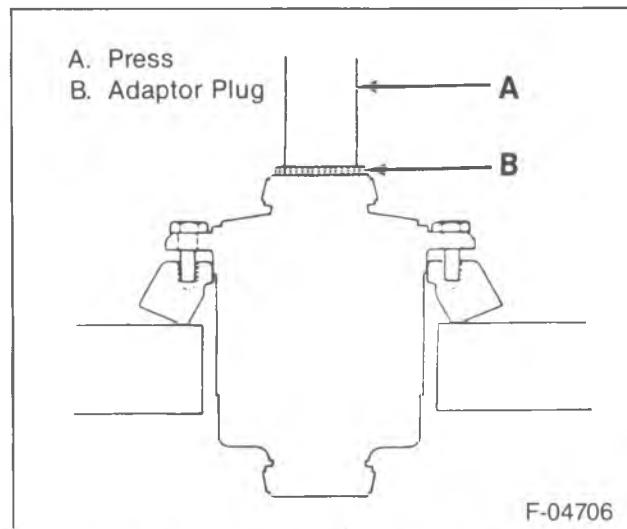

Figure 18—Installing the Ring Gear to the Case
- Press the ring gear onto the case far enough to start the bolts using J 8107-4 to protect the differential from the press ram (figure 18).
- 6. New ring gear bolts (23).